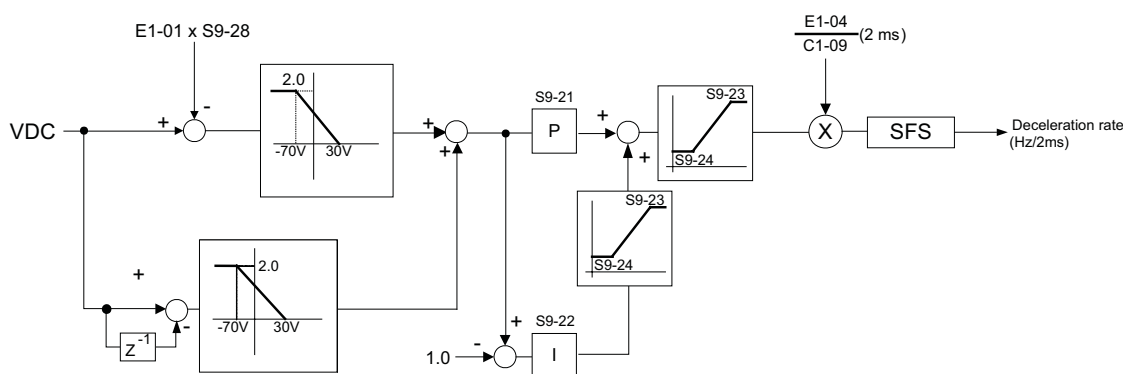

Fig 6.98 KEB Function Block Diagram
After the initial frequency drop the actual KEB function PID control block is activated. For the detailed layout see Fig 6.98. Generally it controls the DC bus voltage by varying the parameter C1-09 (Emergency stop time).
- A derivative (D) part is implemented in the controller but fixed to the values according shown in Fig 6.98. Further the output of the PID controller is limited